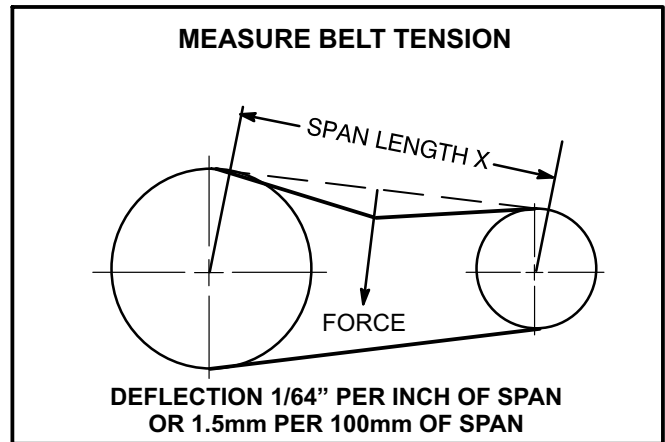

FIGURE 20
- 1- Measure span length X. See figure 20.
- 2- Apply perpendicular force to center of span (X) with enough pressure to deflect belt 1/64" for every inch of span length or 1.5mm per 100mm of span length.